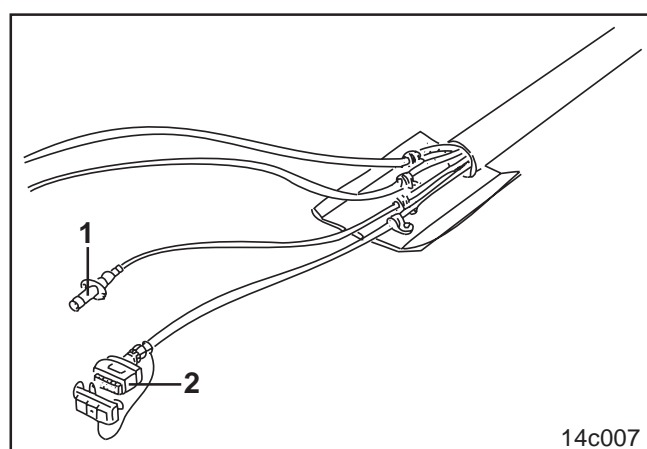

Fig. 11.9
- the plug (Fig. 11.9/1) for the turn signals on the seed tank.
Insert plug (Fig. 11.9/1) into provided adaptor and insert adaptor into the tractor socket (for trailer traffic lights).
- the plug (Fig. 11.9/2) with the cables, which lead to the AMADOS sensor(s) on the sowing rail.